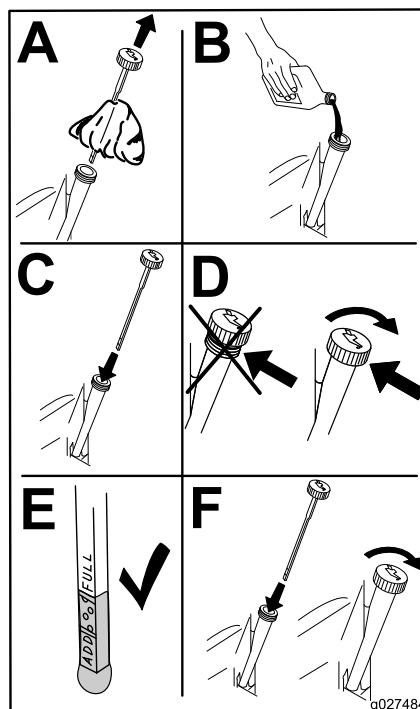

Figure 39
6. Slowly pour approximately 80% of the specified oil into the filler tube and slowly add the additional oil to bring it to the **Full** mark (Figure 39).